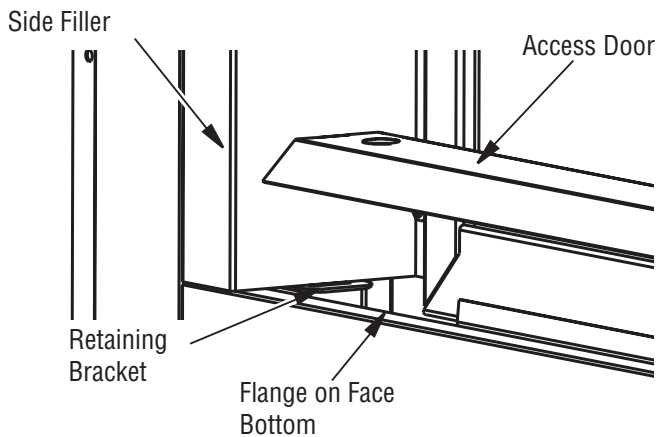

Figure 24 - Access Door for See-Thru Applications
1. Place access door in front of fireplace opening with the slanted side facing forward. The slanted surface will slide underneath the flange of the bottom face. Insert tabs on side of access door into slots on retaining brackets (See Figure 24).
2. Remove access door (see Figure 24, page 14).